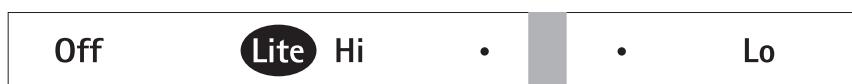

Fig. 3
4. If only the inner burner is needed, continue to rotate the knob counterclockwise somewhere past grey area -Fig. 3.